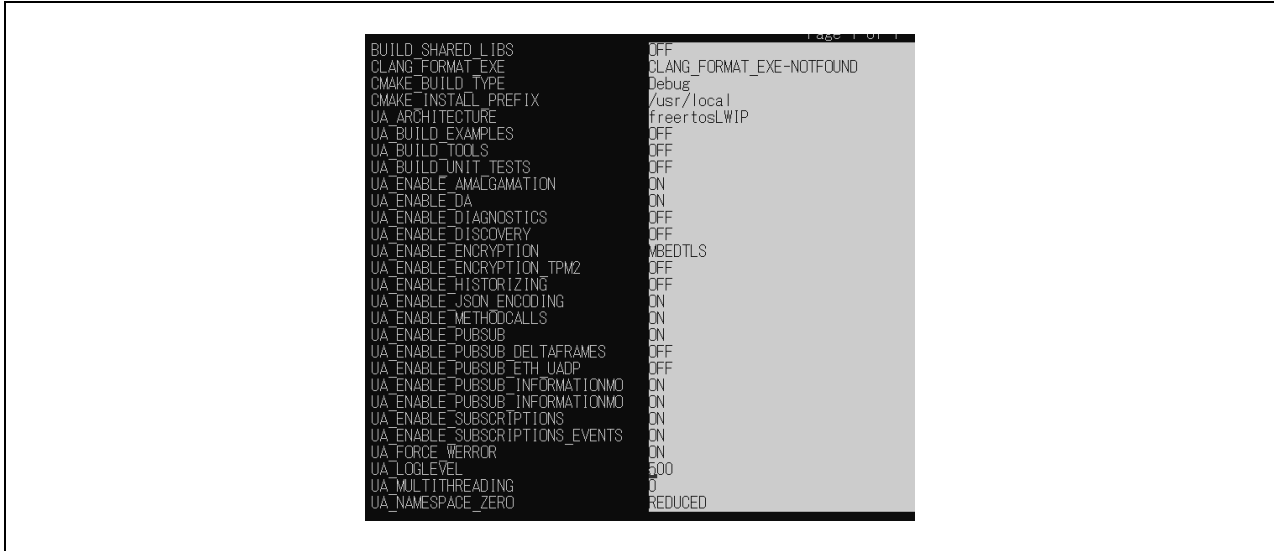

Figure 9.14. cmake for OPC UA Server, PubSub
20) After changing the settings as Figure 9.14, press [t] toggle advanced mode and change “UA\_ENABLE\_PUBSUB\_ENCRYPTION” to “ON”. After executing [c] to configure, close it by [q] to quit without generating.